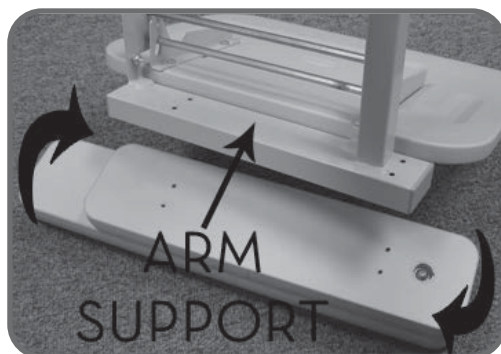

FIG. 2
3. After removing the **four (4)** wood screws, rotate the pivot arm assembly 180° (**FIG. 2**).